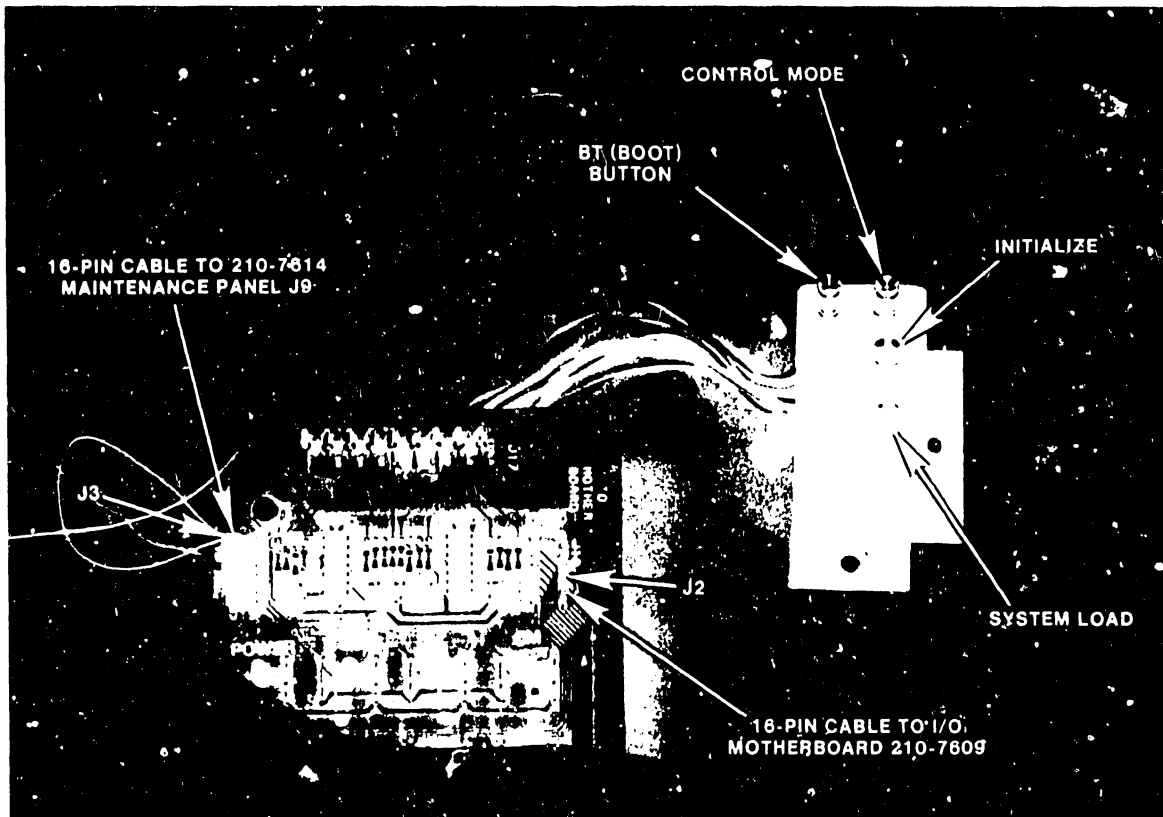

FIGURE 3-18 VS-100 FRONT PANEL CONTROLS AND INDICATORS
1. Insert the microcode diskette (wLI #705-0154) into the mini-floppy drive and press the silver 'BT' (BOOT) button on the Control Panel (See Figure 3-18) to load the microcode into Control Memory.